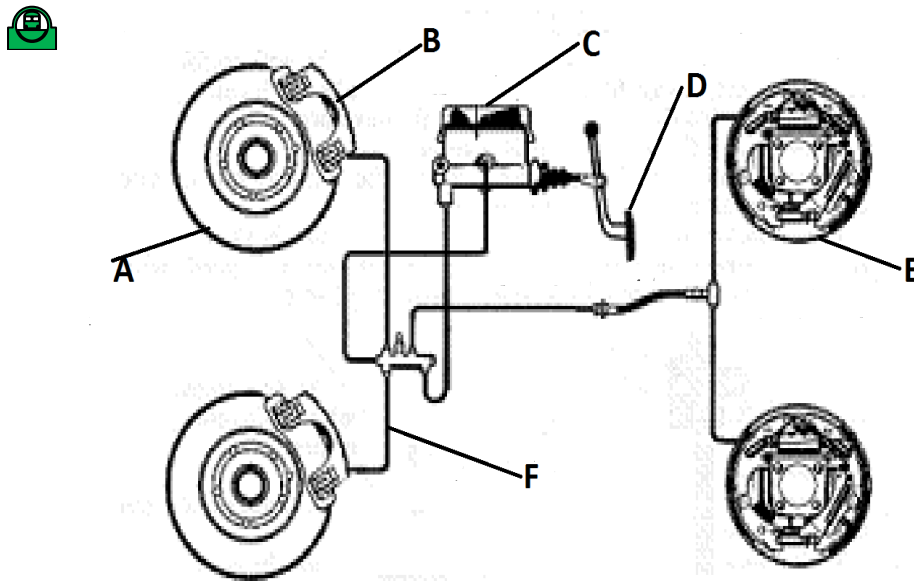

**FIGURE 6**
5.5 Identify the components of a rear suspension system in FIGURE 6 below, by writing the answer next to the letter (A–F) in the ANSWER BOOK.